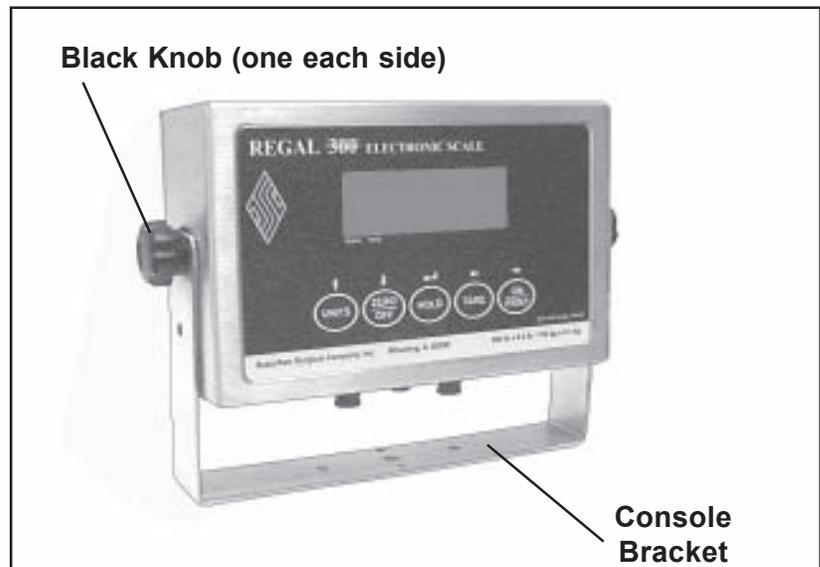

Figure 9. The Console Mounted on the Console Bracket
11. Mount the display console to the console bracket with the two black knobs supplied (Figure 9).